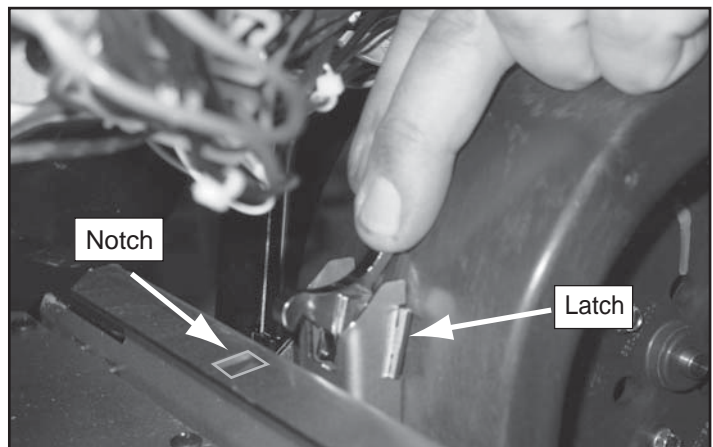

Figure 30.2
1. After the sides are removed, reach behind the blower and release the latch by pushing the top of the latch towards the blower. **Figure 30.2**.